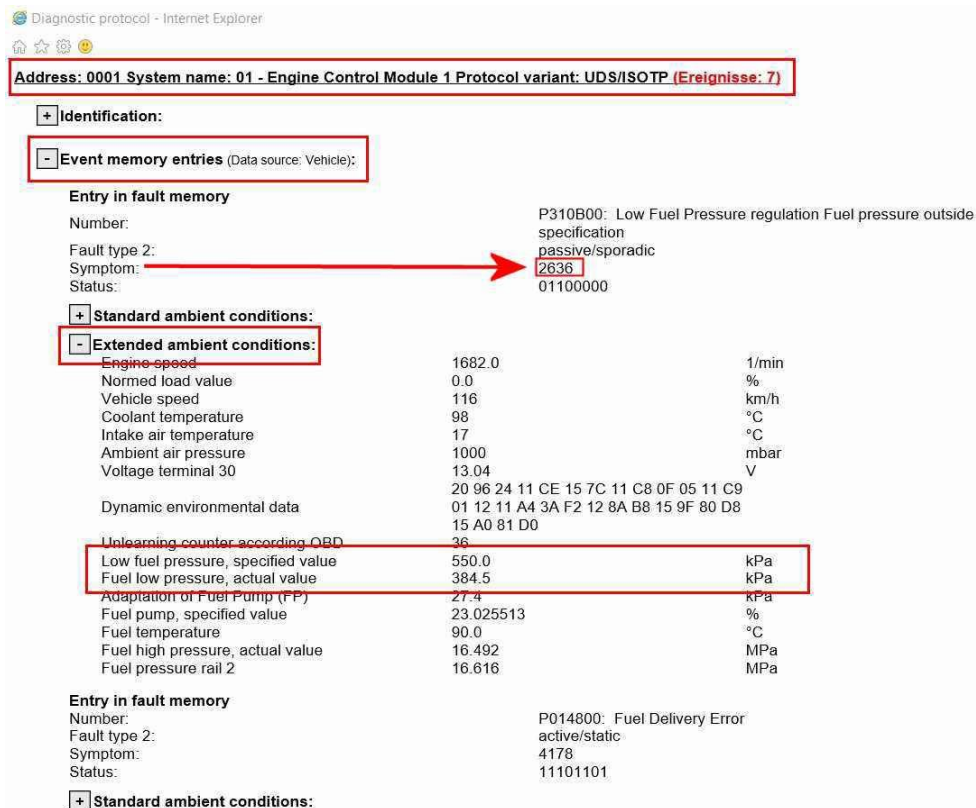

Figure 1
2) Check “Low fuel pressure, specified value” and “Fuel low pressure, actual value” within the fault memory, refer to ECU “01 – Engine Control Module 1” -From “Extended ambient conditions” note the values of the “Low fuel pressure, specified value” and “Fuel low pressure, actual value ” as shown in Figure 1.